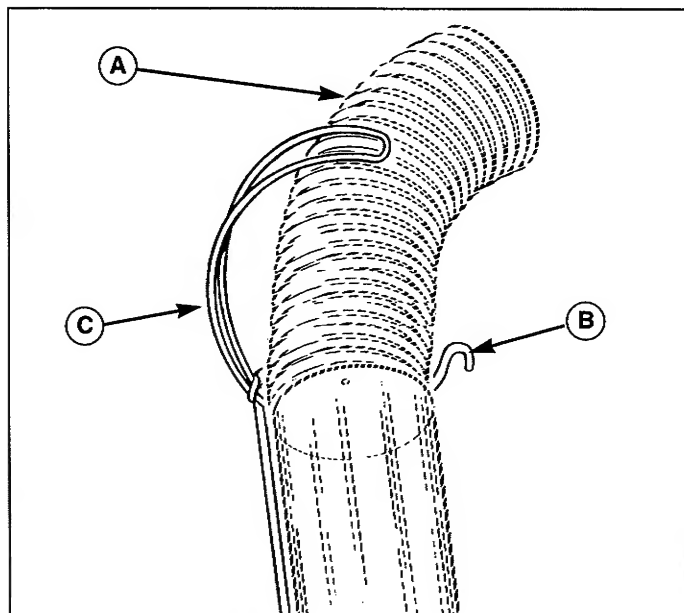

Figure 8. Secure Tube
2. Secure the flex tube (A, Figure 8) to the tube support (B) using a rubber strap (C).
2. Remove the rubber strap (C, Figure 8) securing the flex tube (A) to the tube support (B).